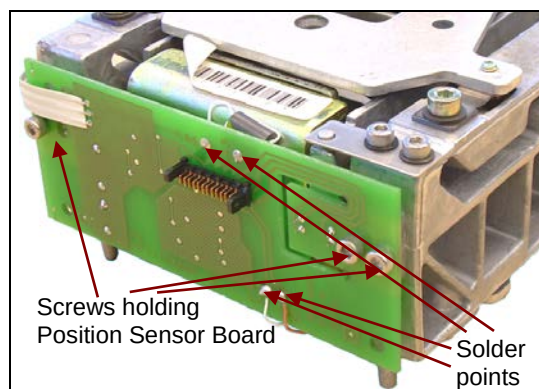

Figure 3-50. Position Sensor Board.
8. Unsolder and remove the four wires shown in Figure 3-50. The two wires at the bottom connect to the light source. They must be re-soldered as pictured here: white on left, red on right. The two wires on the top connect to the Temperature Sensor. Their positions are not important.